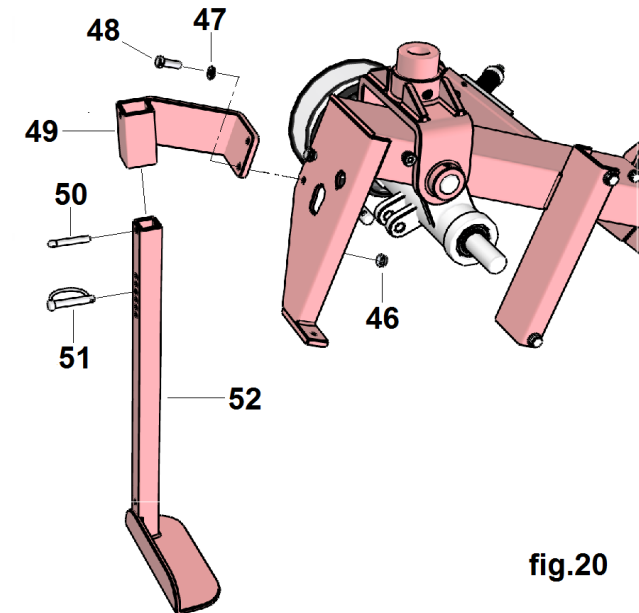

fig.20
15. Assembly of bearing foot (fig.20):
- Place the support of bearing foot (49) on the equipment chassis, as shown in figure, and fix by using the relevant screws (48) and nuts (46);
- Remove the split pin (50) and the safety pin (51) from the bearing foot. – Insert the bearing foot (52) in its support (49). – insert the split pin in the higher hole of the bearing foot and lock the same foot, in the suitable position, by inserting the safety pin in the corresponding hole;